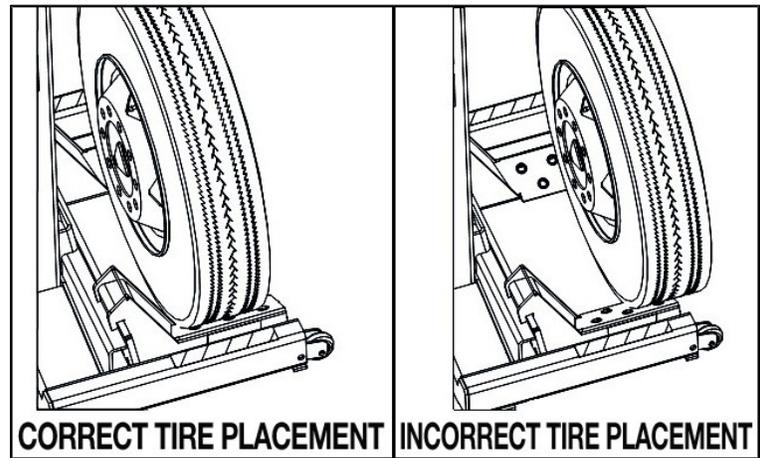

Fig. 6: Position lift table tube against tire
5. Position the lift units at opposite ends of the same axle. If necessary, adjust the carriage lift arms (See Carriage width adjustment section) until they are wide enough to allow the lift pads to clear the tire tread. Make sure the lift pads cradle the tires evenly and are aligned with the tire. Position the lift pads under the tire so the entire lift pad is under the tire (Fig. 6). Lower the base to the ground using the handle once the lift unit is properly positioned.